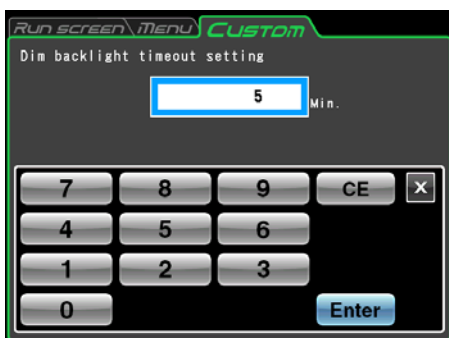

Figure 24: Screen for setting the time period after which the backlight will be dimmed
- Pressing “ min.” when the dimming backlight mode is enabled opens the screen shown in Figure 24 Screen for setting the time period after which the backlight will be dimmed that allows you to set the time when the dimming backlight mode will begin. You can set a time between 1 and 180 minutes in one minute increments.
- Touching the screen while in dimming backlight mode will return normal brightness to the screen adjusted in step (1).